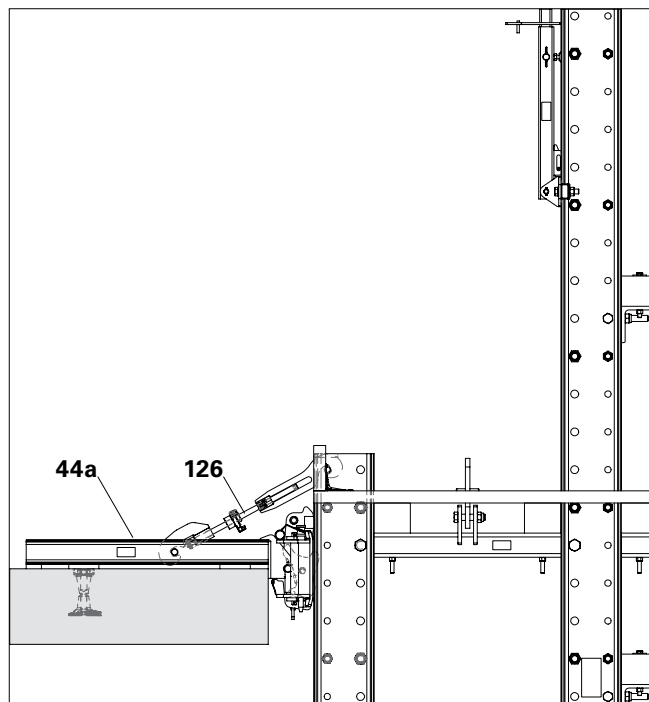

Fig. D4.08
2. Pull Climbing Rail inwards by means of the Guide-in Tool (126).
- (Fig. D4.08 + D4.08a)